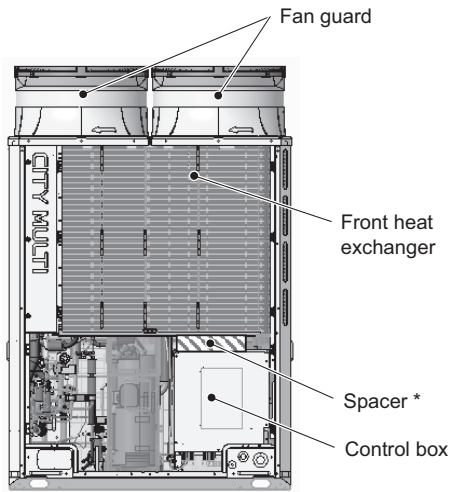

Figure 9
- (11) Remove the fan guard by unscrewing the 12 screws. (See Figure 9.)
- (12) Insert a spacer between the control box and the heat exchanger.
- (13) Remove the cable tie that is holding the motor ASSY and the unit wiring.